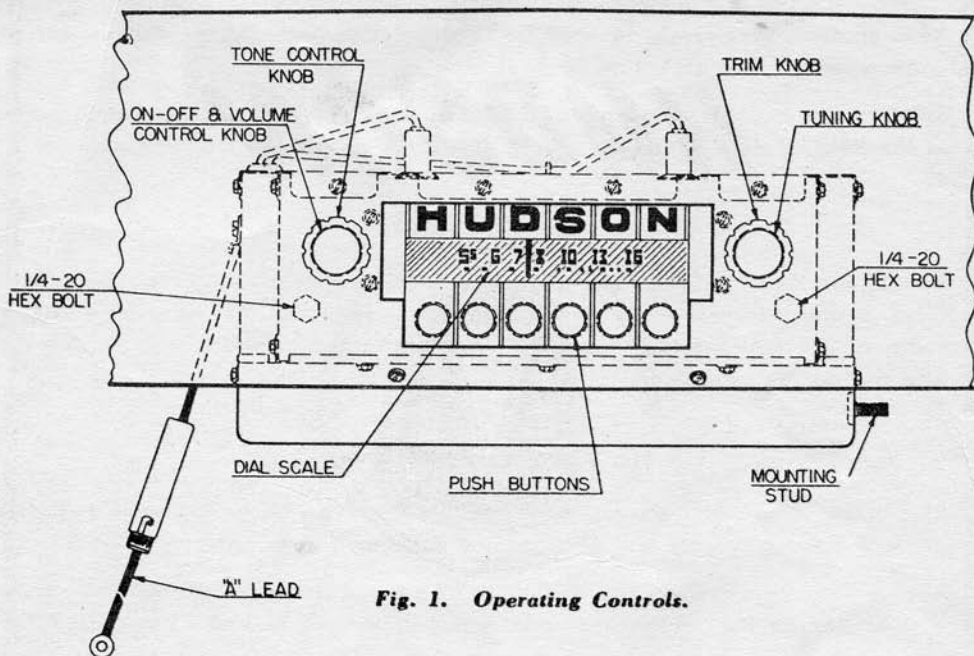

Fig. 1. Operating Controls.
The tone control is located directly behind the volume control knob (Fig. 1). Rotating this control to the right or left will change the tone of the receiver. The treble position is useful in overcoming wind, noise, etc., when driving, while the bass position brings out the full mellow tones of musical programs. With the tone control set midway, the full tonal range is obtained. Turning to the right will emphasize the high notes, while turning to left will emphasize the bass notes.
To tune manually it is only necessary to turn the manual tuning knob (on the right side of the receiver, see Fig. 1). Tune to exact frequency for the best tone quality. This can be done at any time without disturbing the automatic setting.
2. Turn the manual tuning control knob (Fig. 1) to tune in the desired station. Carefully tune to the middle of the signal for clearest reception.